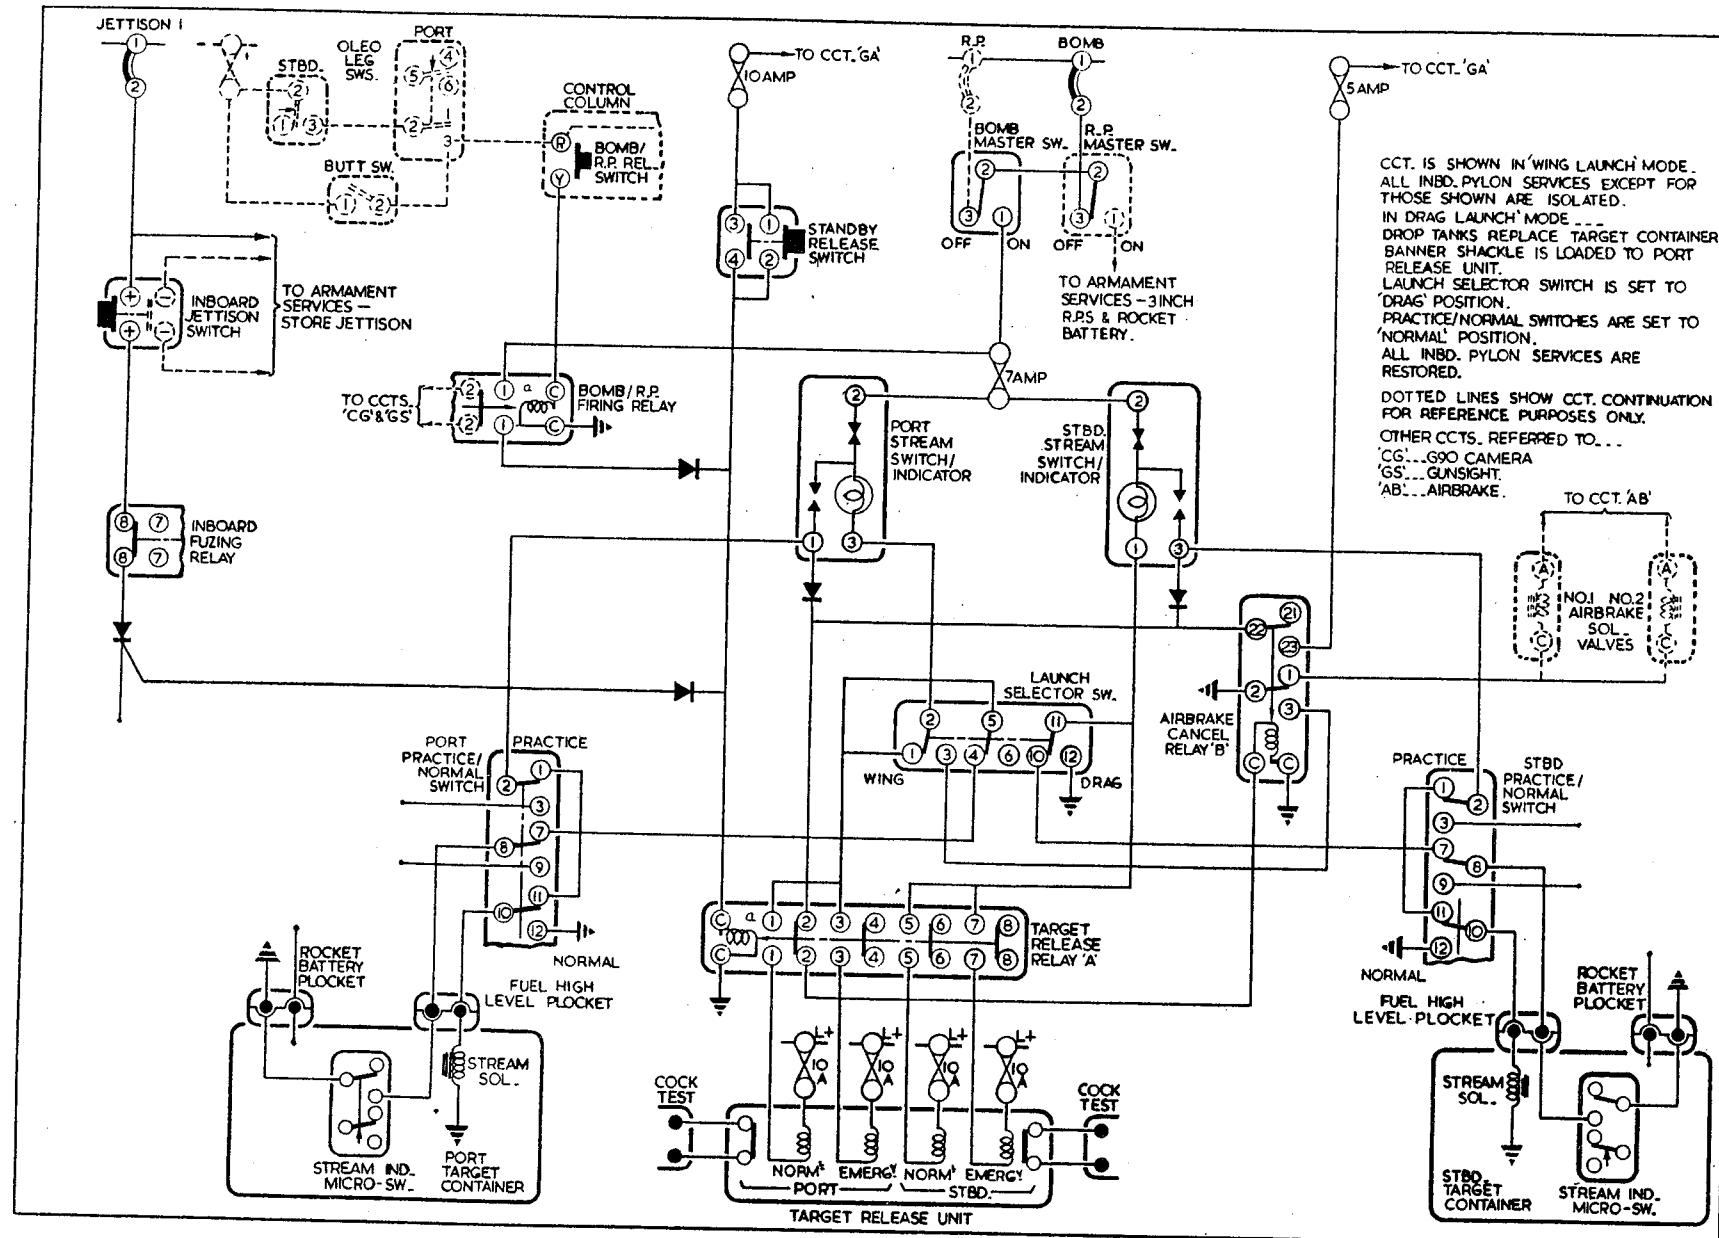

Fig.1 Target towing (theoretical)
7. The target towing control box is mounted on frame 19 in the radio bay. In addition to relay A the box contains an air brake cancel relay B, a launch selector switch, two pairs of linked fuses and four diode rectifiers, wired as illustrated in fig. 1. The launch selector switch is used to condition the circuit for the required launching mode. Two poles of the switch are wired to the indicator